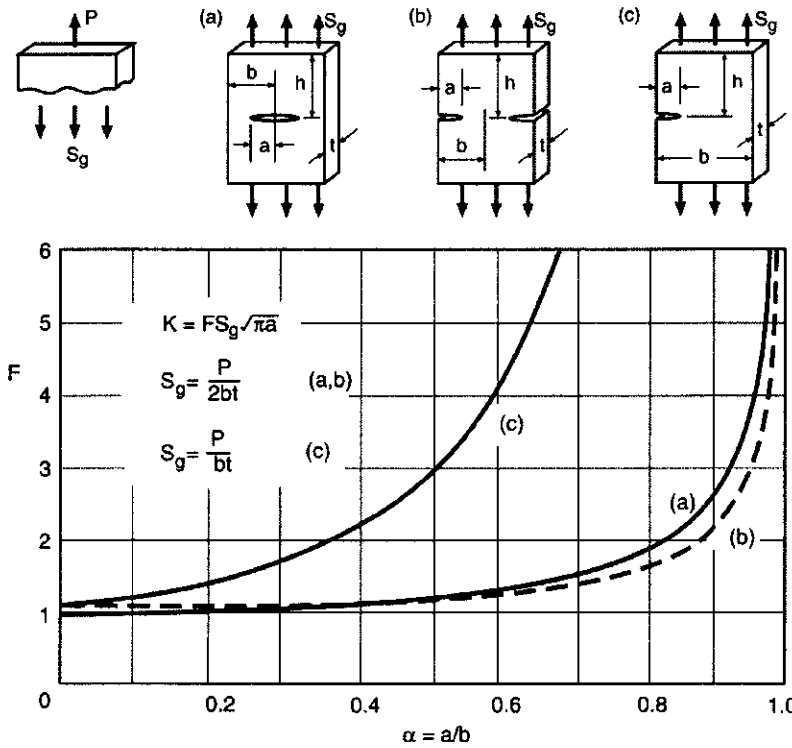

FIGURE Q2
- (b) A centre-cracked plate of AISI 1144 as shown in **Figure Q2**, has dimensions $b = 40$ mm and $t = 15$ mm. For a safety factor of three against brittle fracture, what is the maximum permissible force P on the plate if the crack half-length, a is 10 mm. If the safety factor of design application is 2, determine the critical crack length, a_c for the fracture of this material.